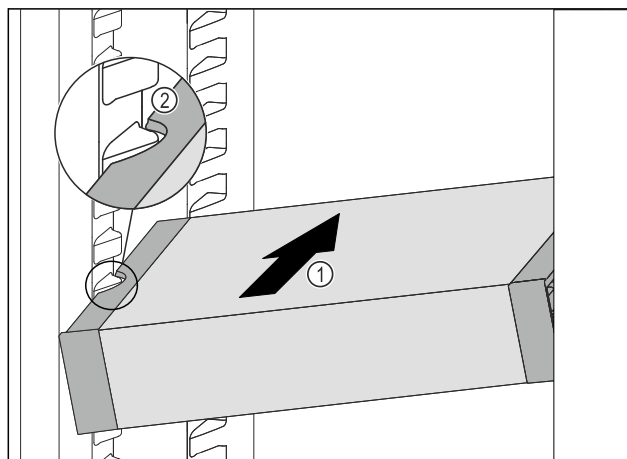

Fig. 96
- Insert the VarioSafe into the fridge section at an angle Fig. 96 (1) until the recesses in the side Fig. 96 (2) of the VarioSafe are at the level of the support rib in the fridge section.